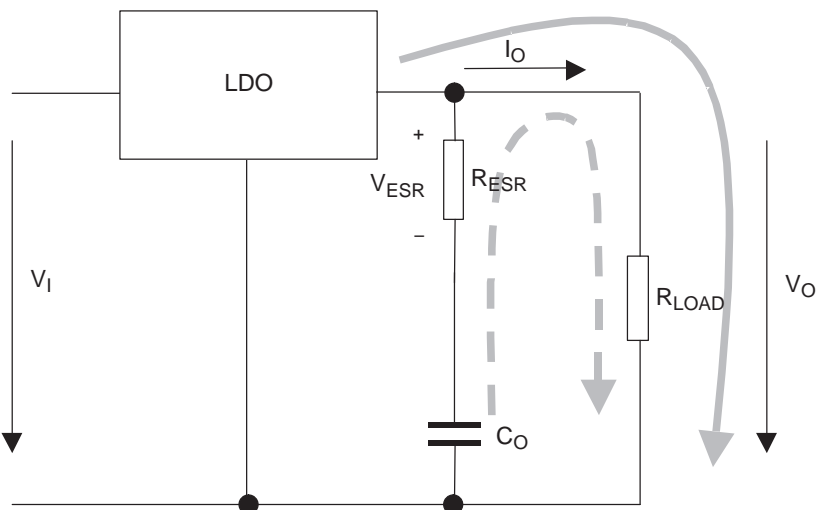
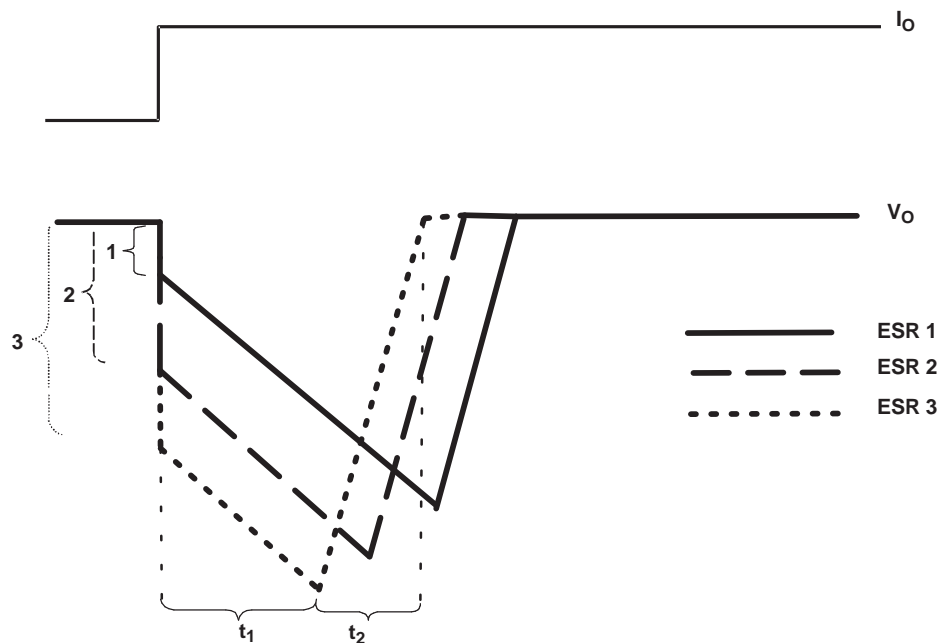

Figure 8. LDO Output Stage With Parasitic Resistances ESR and ESL
Figure 9. Correlation of Different ESRs and Their Influence to Regulation of  $V_O$  at a Load Step From Low-to-High Output Current
Figure 8 shows the output capacitor and its parasitic impedances in a typical LDO output stage.
- The LDO is not able to supply the sudden current need due to its response time ( $t_1$  in Figure 9). Therefore, capacitor  $C_O$  provides the current for the new load condition (dashed arrow).  $C_O$  now acts like a battery with an internal resistance, ESR. Depending on the current demand at the output, a voltage drop occurs at  $R_{ESR}$ . This voltage is shown as  $V_{ESR}$  in Figure 8.
- When  $C_O$  is conducting current to the load, initial voltage at the load is  $V_O = V(C_O) - V_{ESR}$ . Due to the discharge of  $C_O$ , the output voltage  $V_O$  drops continuously until the response time  $t_1$  of the LDO is reached and the LDO resumes supplying the load. From this point, the output voltage starts rising again until it reaches the regulated voltage. This period is shown as  $t_2$  in Figure 9.
Figure 9 also shows the impact of different ESRs on the output voltage. The left brackets show different levels of ESRs, where number 1 displays the lowest and number 3 displays the highest ESR.